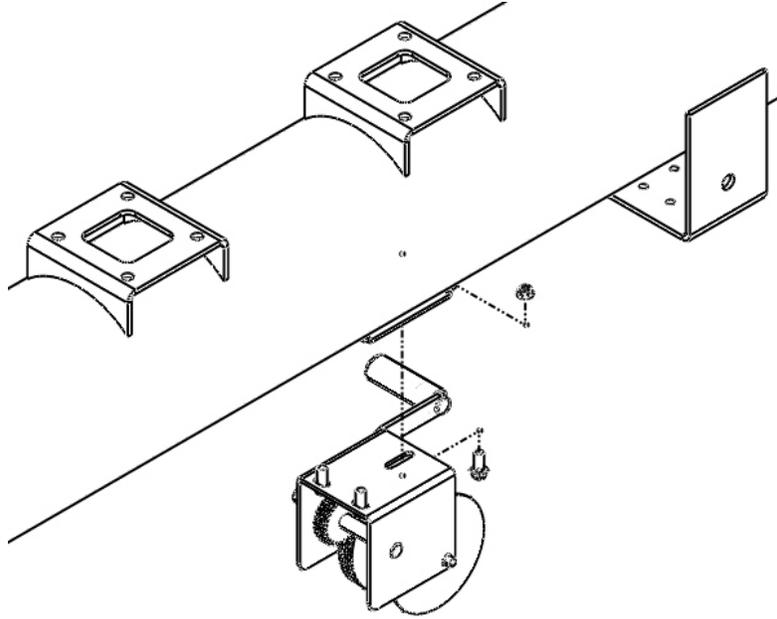

Fig. 6.1
After the drive option is assembled on to the auger the winch will need to be installed. To install the winch, fasten it to the bracket welded on the underside of the first tube. Secure it to the bracket by using (3) 3/8" x 1" hex flange bolts & nuts as shown in fig. 6.1. (If handle is not installed on the winch refer to the operator's manual for the winch that is provided)